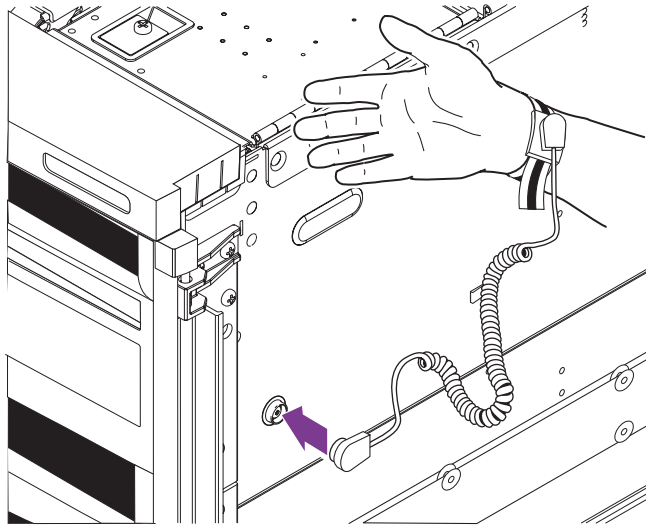

FIGURE 2-1 Attaching the Antistatic Wrist Strap—Right Side
- Right side towards the front (FIGURE 2-1)
- To attach the antistatic wrist strap to the chassis, connect the strap as shown in FIGURE 2-1.